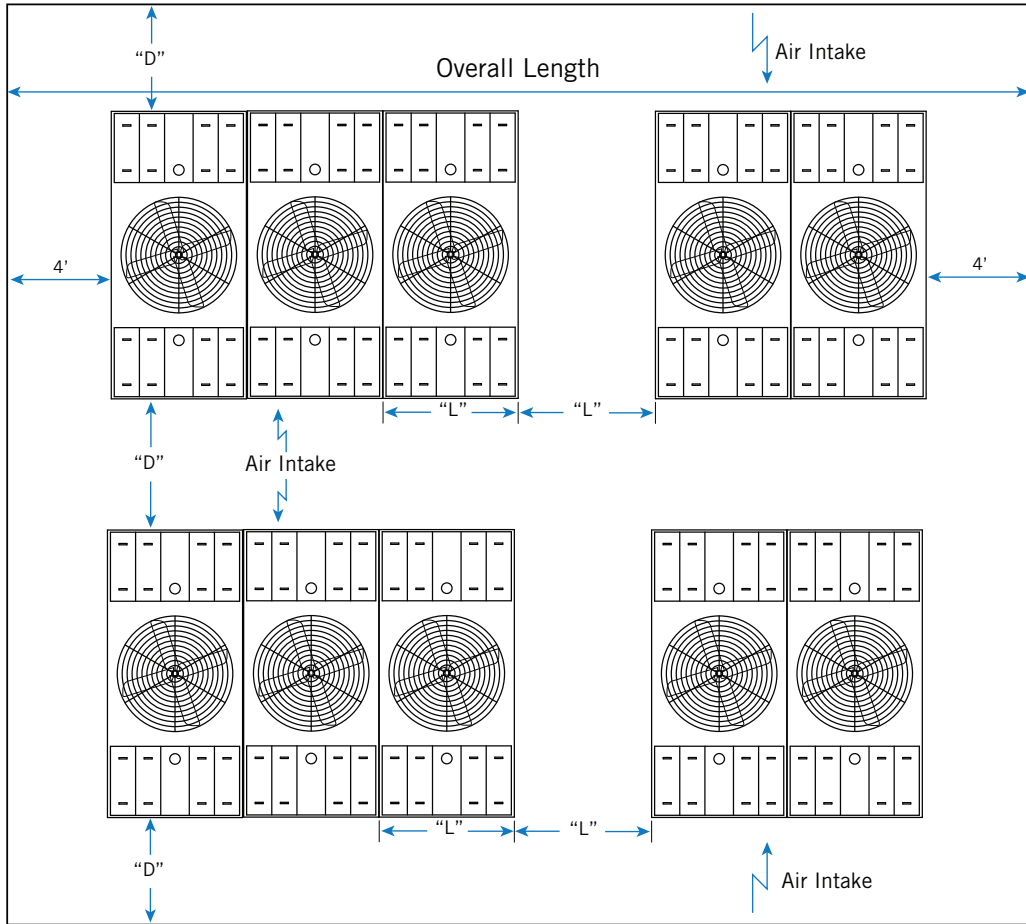

Figure 8: Plan View of Multi-cell Installation
**Example: (10) S3E-1222-14S (See Figure 8)**